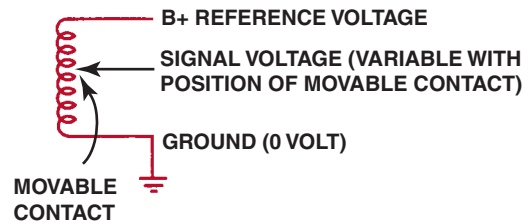

FIGURE 3-26 A three-wire variable resistor is called a potentiometer.
- A **potentiometer** is a three-terminal variable resistor where a wiper contact provides a variable voltage output. ● **SEE FIGURE 3-26.** Potentiometers are most commonly used as throttle position (TP) sensors on computer-equipped engines. A potentiometer is also used to control audio volume, bass, treble, balance, and fade.